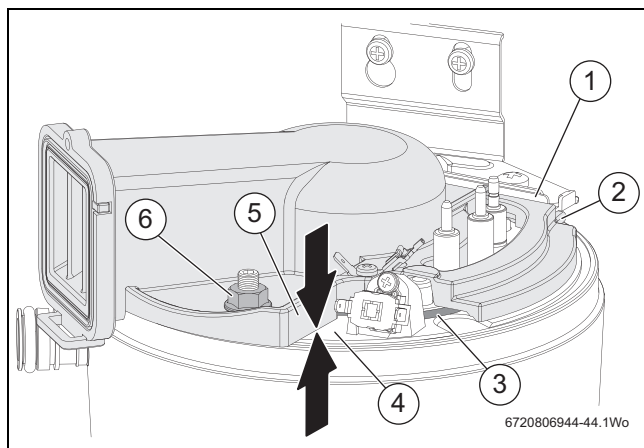

Fig. 81 Air/gas manifold clamping plate fitting
Refer to figure 81.
- Tighten the nut [6] until the underside face of the air/gas manifold clamping plate mates with the top of the heat exchanger [4] as indicated by the two arrows in figure 81.